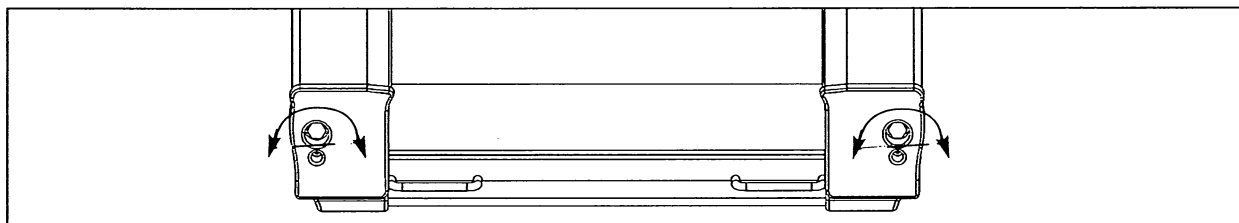

Figure 1
- A. Use a 3/4" socket wrench to turn each bolt 1/2 turn clockwise. See Figure 1. **NOTE:** *Be sure to adjust each bolt equally on each side.*